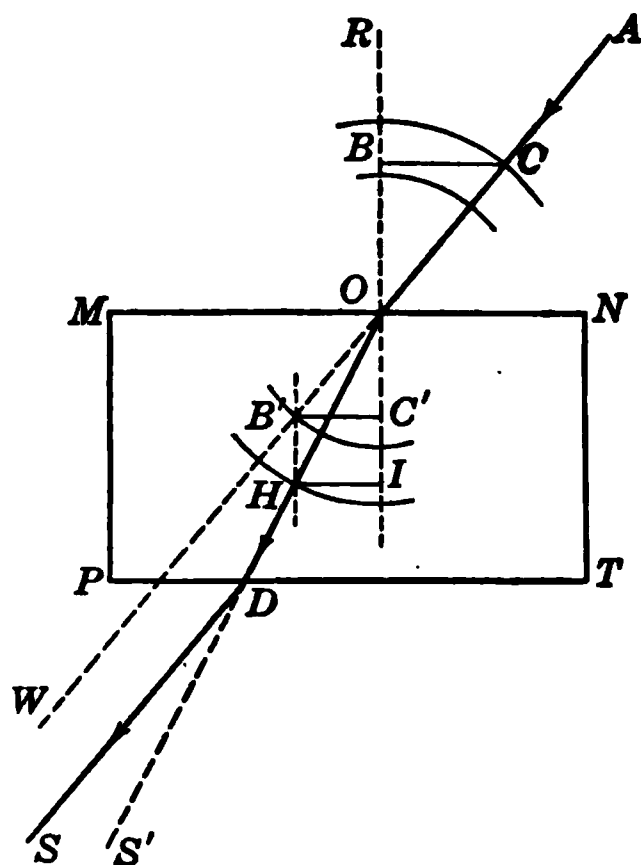
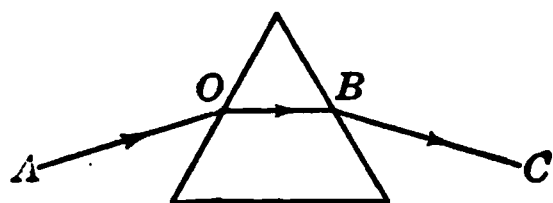

FIG. 305. — Path of ray through a glass plate.
FIG. 306. — Path of ray through prism.
Conversely, a ray of light passing obliquely from a denser to a rarer medium is bent from the perpendicular to the surface. As the light passes from the denser to the rarer medium its speed is increased. (2) The angles of incidence and refraction lie in the same plane. (3) The index of refraction is constant for any two media, no matter what the angle of incidence. Fig. 305 shows the path a ray of light AO takes as it passes obliquely through a piece of plate glass $MNPT$. It is refracted toward the perpendicular as it enters the glass and from the perpendicular upon leaving. By using O as a center and describing arcs having radii of the same ratio as the index of refraction from glass to air, we may construct the lines BC and HI which have a like ratio. The line OH thus represents the refracted ray. The path of a ray of light AO through a prism is shown in Fig. 306.